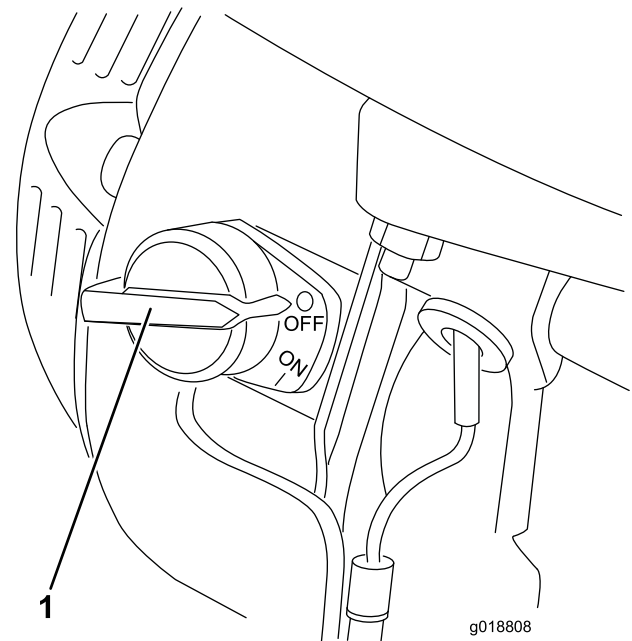

Figure 10
The On/Off switch (Figure 10) allows the operator of the machine to start and stop the engine. This switch is located on the front of the engine. It is marked I (ON) and O (OFF). To start the machine, you must first move this control to the On position. When you want to stop the engine, move this switch to the Off position.